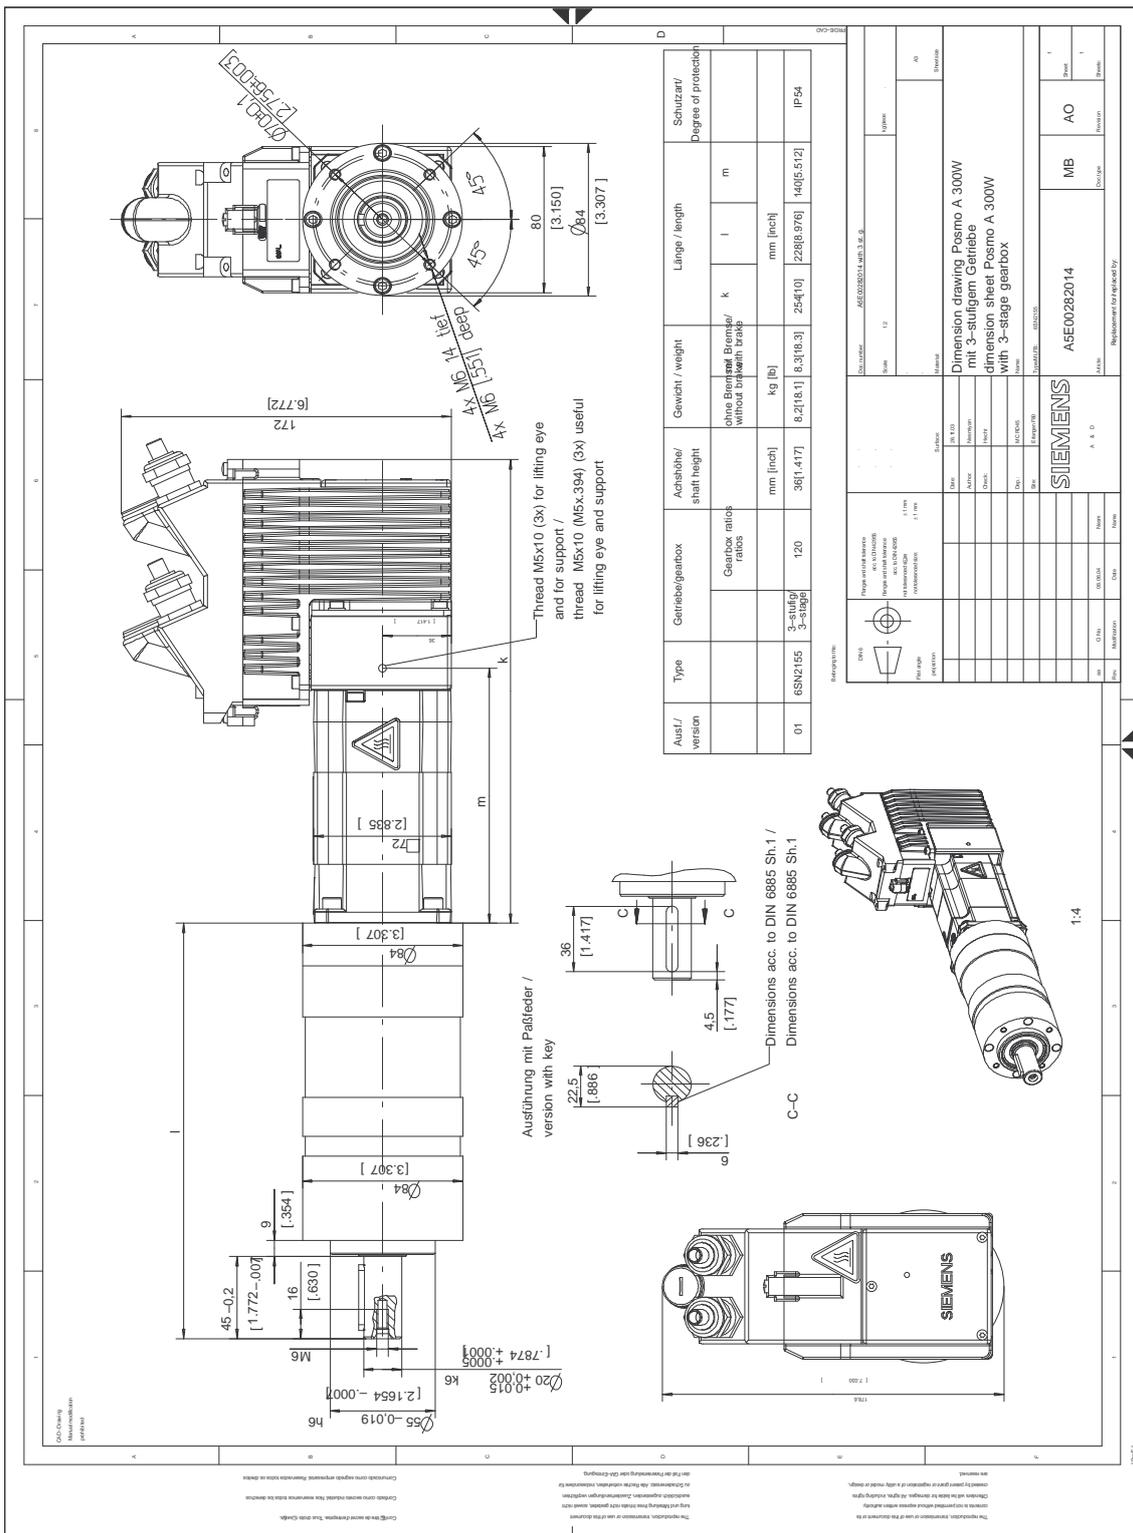

Fig. C-6 Dimension drawing: SIMODRIVE POSMO A – 300W with planetary gearbox (3-stage)
- Motor with planetary gearbox (3–stage) —> refer to Fig. C-6